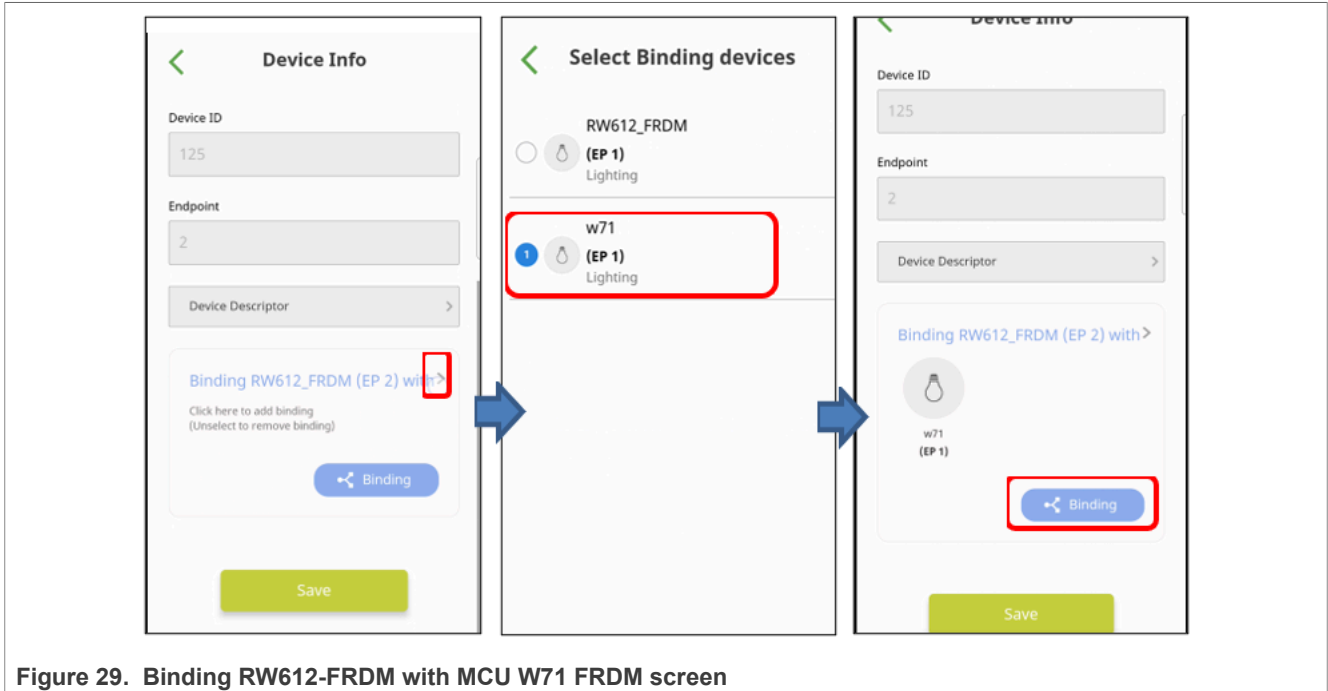

Figure 29. Binding RW612-FRDM with MCU W71 FRDM screen
1. Enter the information page of RW612-FRDM (**EP2**), select the binding device MCU W71 FRDM (**EP1**) as shown in Figure 29